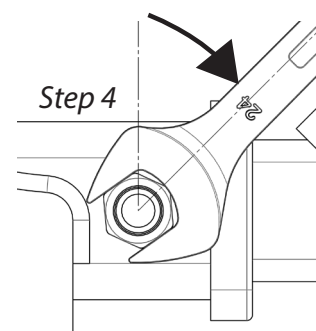

Fig 4. Tightening of Silent Anti-Rattle Hitch Pin Nut
**STEP 4** Tighten HITCH PIN NUT by turning nut a further 1/8th of a turn in the clockwise direction using a 24mm spanner (Fig. 4).